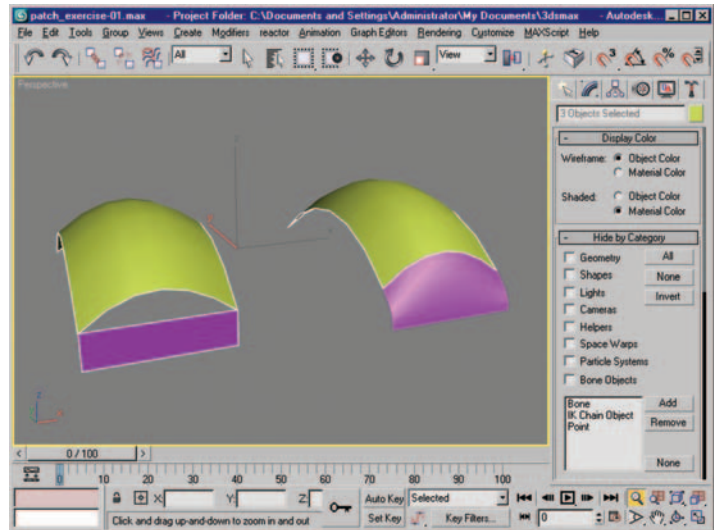

Figure 2.28 New patch in its initial state (left) and converted with Bezier handles manipulated (right).
7. Once this shape is created go to your top viewport, and align the newly created patch to the front of the existing surface (mouse top). Next convert the Quad patch to an editable patch, and manipulate the Bezier handles to match up with the curves of the existing mouse top geometry. You should take a little time to match the curves of the new surface, both side to side and top to bottom. Figure 2.28 shows the second patch in its initial state and the converted/edited version matching the curves of the mouse top surface.